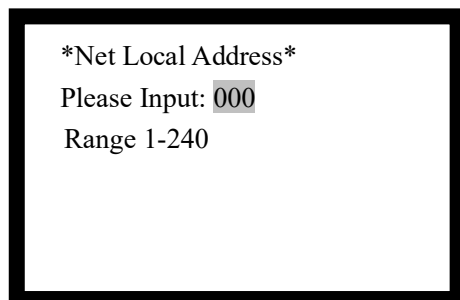

Fig. 6-44
- ✧ Set the panel's network address by entering number 1, as shown in Fig. 6-44. The address can be set to any number between 1 and 240.